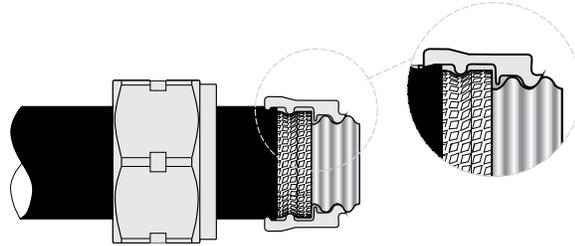

Figura 4-12
PASO 3 INSTALE LAS TUERCAS Y BUJES (FIGURA 4-12)